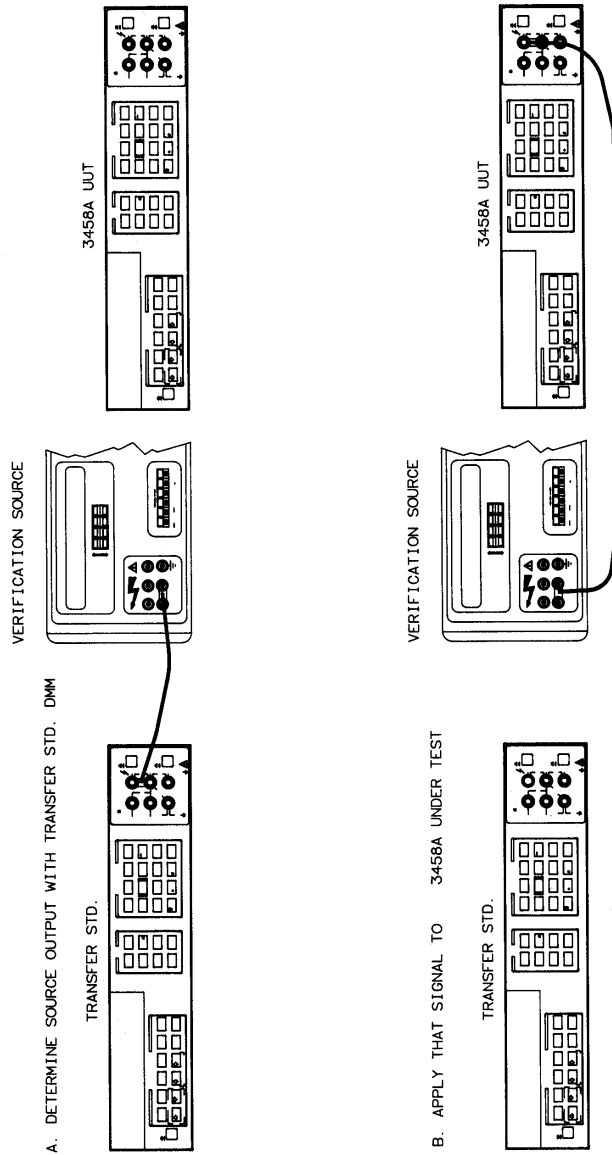

Figure 4-1 General test procedure
- 8 Connect the Verification source to the transfer standard DMM and determine the source output (see Figure 4-1 (A)). Record this value on the Test Card under "Transfer Standard Reading".
- 9 Disconnect the Verification Source from the transfer standard DMM and connect it to the 3458A under test (see Figure 4-1 (B)). Record this value on the Test Card under "Unit Under Test Reading".